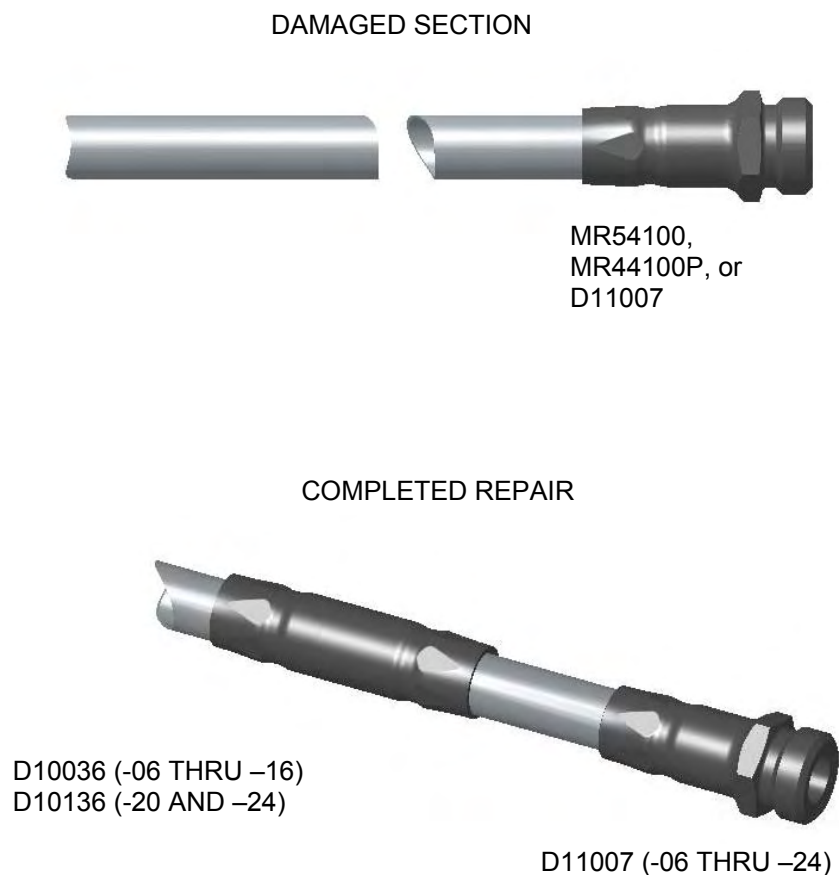

Figure 17: Type 4f Repair
36. TYPE 4f - Damaged End Fitting (lipseal, male adapter) Replacing internally swaged, butt-welded, or externally swaged male lipseal fittings: MR54100, MR44100P, or D11007. See Figure 17 below.